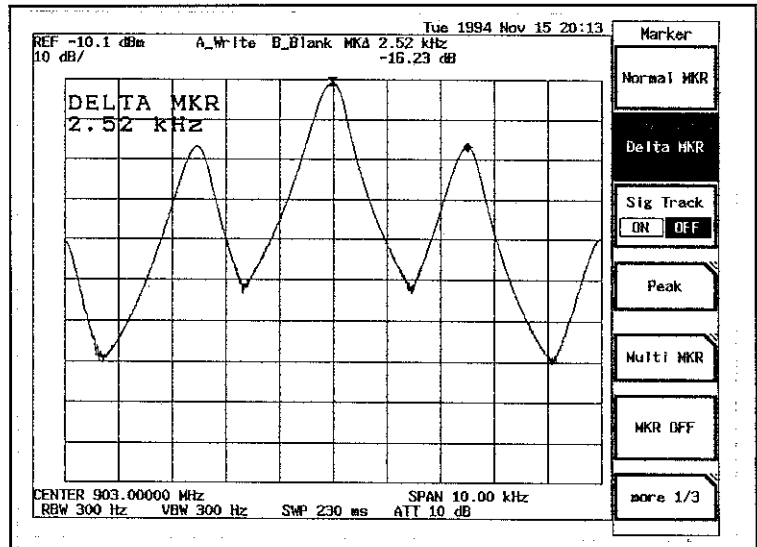

Figure 5-22  $f_{SB}$  and  $E_{SB}$  of FM wave
- 4 Press **more 1/2**, **return** and **Delta MKR** keys, and turn the data knob to move the delta marker on the 1st sideband wave, and read  $f_{SB}$  and  $E_{SB}$  [dBm] values from the displayed values for delta marker position (see Figure 5-22).